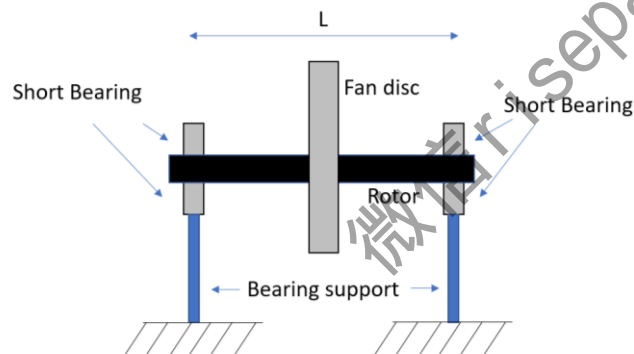

Figure Q2a
2. Figure Q2a shows the fan of a ventilation system. The fan has mass $M = 20\text{kg}$ and is centrally mounted on a rotor that is supported by two short bearings at its ends. The rotor is a solid steel rod of radius $R = 5\text{mm}$. It has a length $L = 1\text{m}$. There is concern that at some speeds excessive vibration of the fan could compromise the performance of the system.
- At the critical speed the vertical displacement of the fan from the axis of rotation is observed to be $v = 10\text{mm}$. The bearings are supported by a small solid vertical member of cross-sectional area $A = 10^{-6}\text{m}^2$ as shown in Figure Q2a. Estimate the alternating axial stresses in the bearing support due to the rotor out of balance. [2%]